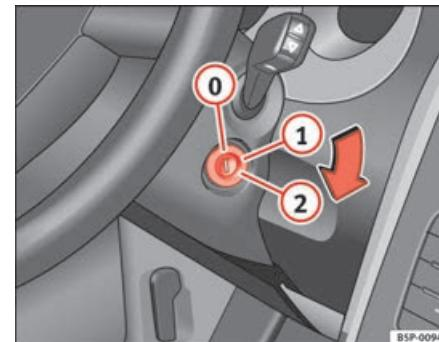

Fig. 100 Ignition key positions
In the position ⇒ fig. 100 the ignition and the engine are OFF and the steering may be locked.
- Turn the ignition key to position ⇒ page 132, fig. 100 ①. The indication lamp  will light for engine pre-heating.
- When the warning lamp goes out, turn the key to position ② to start the engine. Do not press the accelerator.
- Turn the ignition key to position ⇒ page 132, fig. 100 ①.